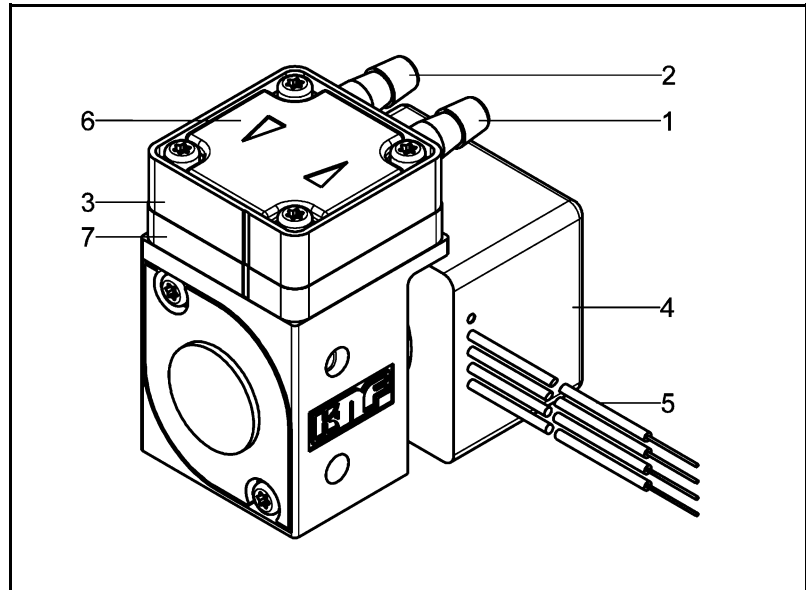

Fig. 1: Diaphragm–Liquid pump NF 10
* Pump head (Fig.1): contains connection plate and intermediate plate